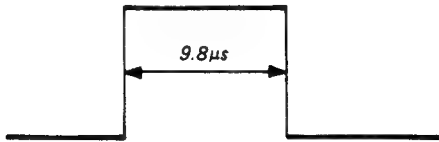

Fig. 31-2
- 6. Adjust RV1 on the DA board so that the H. BLK pulse width is 9.8μs. Fig. 31-2.